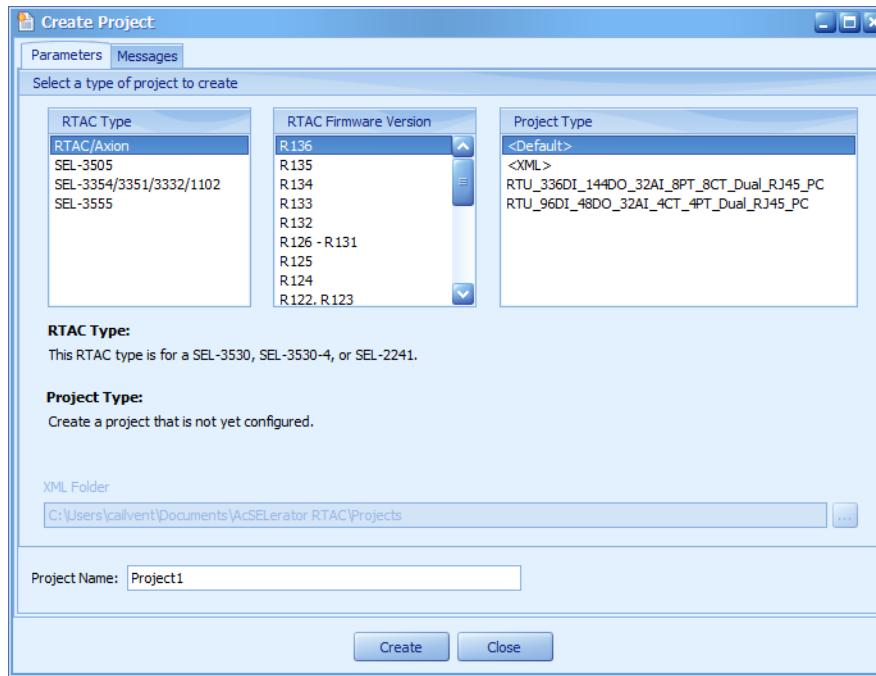

Figure 194 Create New Project
- Step 1. Create a new project in ACSELERATOR RTAC from the main menu, as shown in *Figure 194*, and select **Create**.